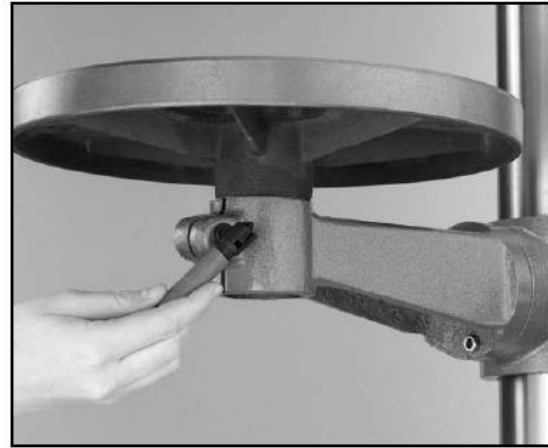

Figure 21
1. Loosen the lock handle located under the table as shown in **Figure 21**. Rotate the table the desired amount.